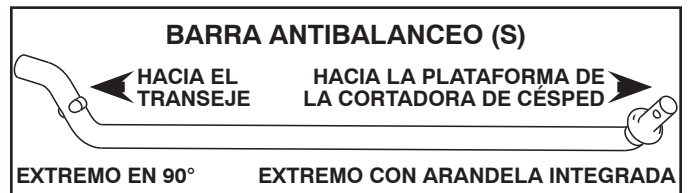

Fig. 9
5. SI LA TIENE, INSTALE LA BARRA ANTIBALANCEO (S) (Vea Fig. 9 - 11)